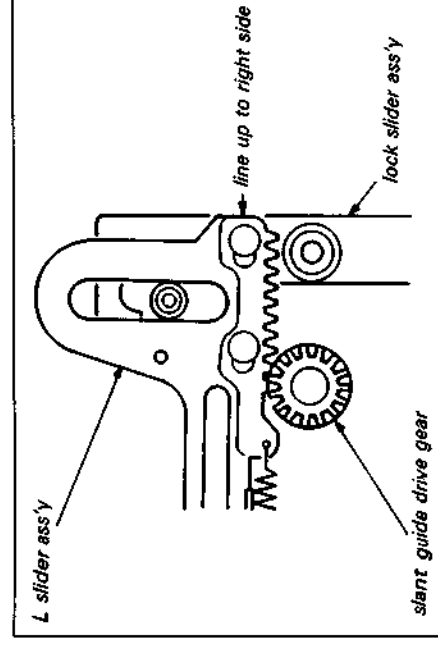

Fig. 7-27.
- 1) Operate the mode selector, and line up the right edge of the L slider assembly and the right edge of the lock slider assembly. (See Fig. 7-27.)
- 7) Operate the mode selector, and match up the right edge of the L slider assembly and the right edge of the lock slider assembly. (See Fig. 7-27.)